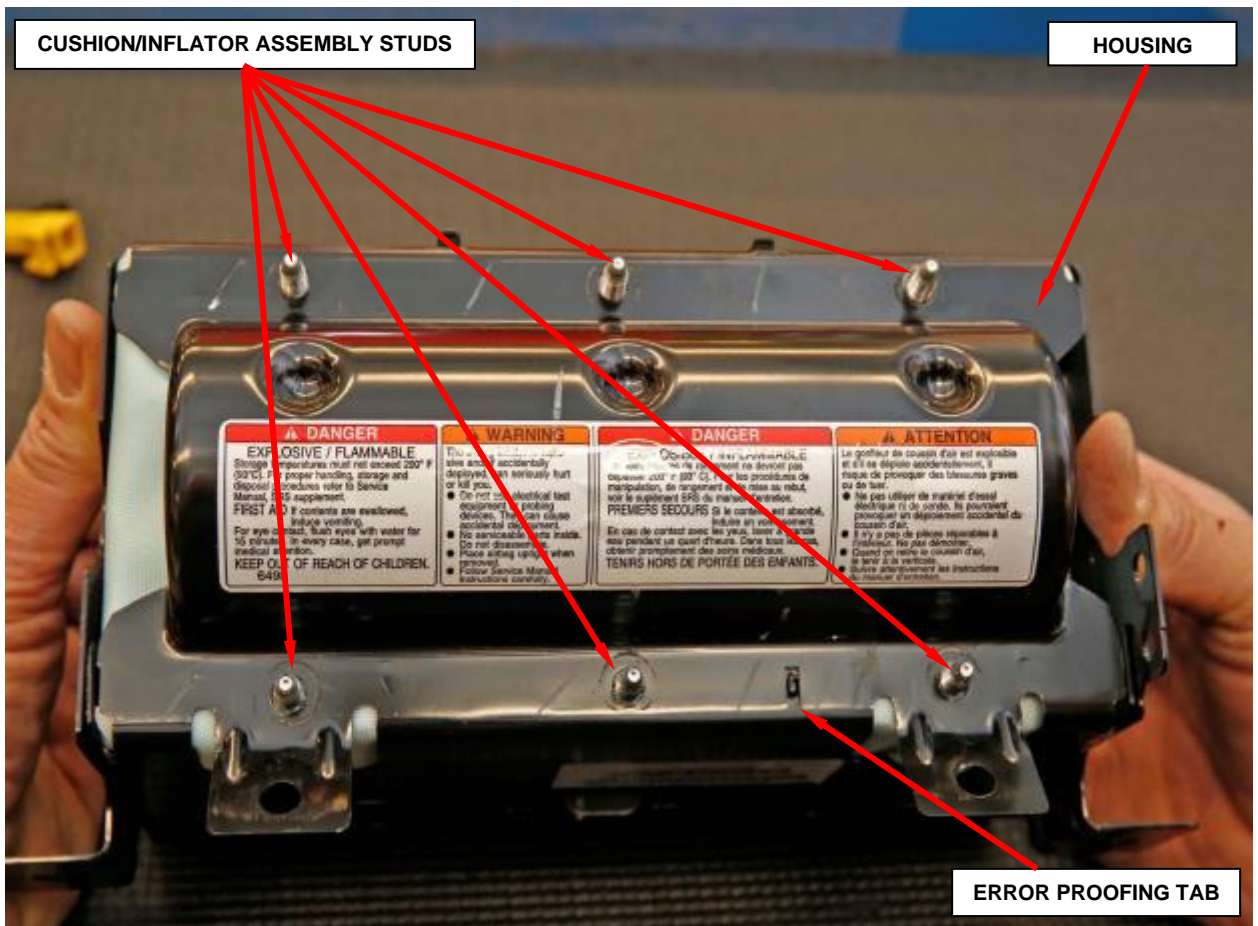

Figure 24 – Error Proofing Tab
- i. Insert the cushion/inflator assembly into housing ensuring correct orientation as shown (Figure 24).
NOTE: Ensure proper inflator fit. Note error proofing tab when reassembling to housing (Figure 24).